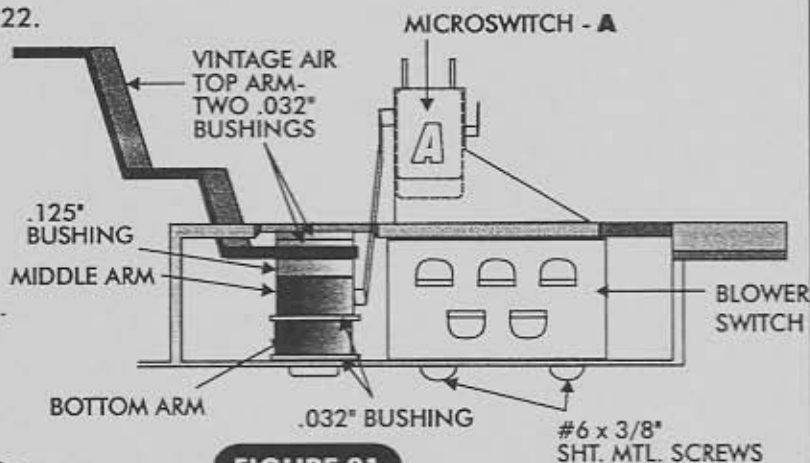

FIGURE 21
- ALIGN MICRO BRACKET ON TOP OF THE MOUNTING LEGS OF BLOWER SWITCH. INSTALL TWO (2) #6 x 3/8" SCREWS FROM BOTTOM AND TIGHTEN (MAKE SURE THE ARM ON THE MICRO IS TOUCHING THE 2nd ARM AS IN FIGURE 21).